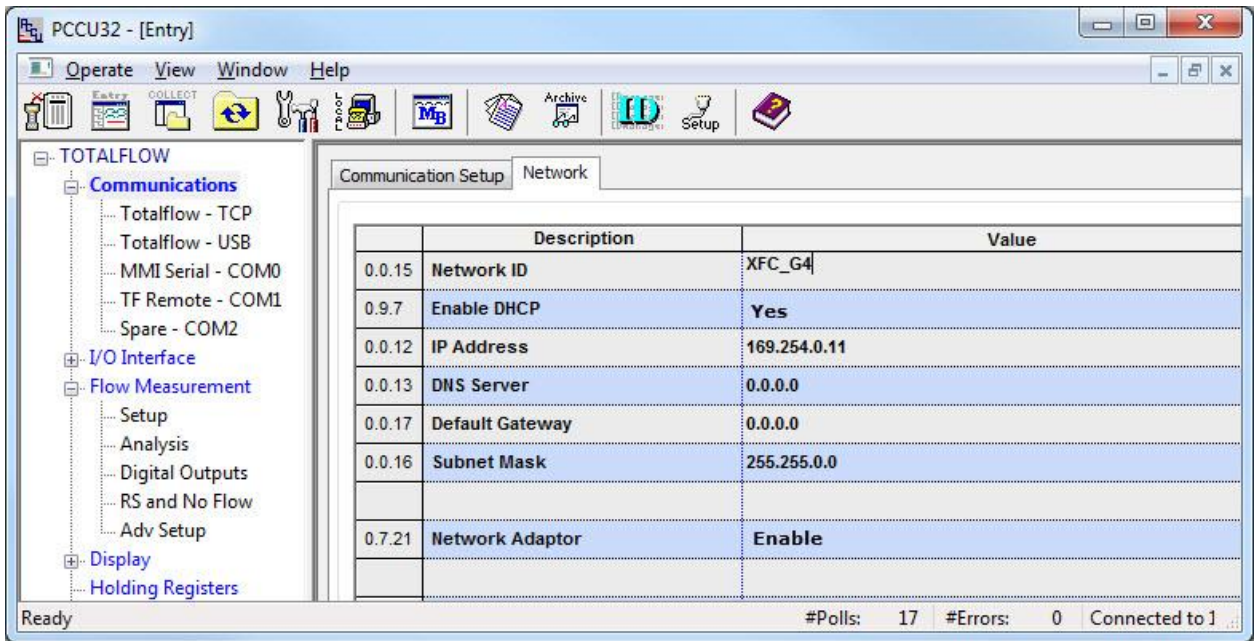

Figure 67 Network tab: Configure to use DHCP for addressing
4. In the Network ID field, type a name that helps to identify the device uniquely (Figure 67).
5. Set **Network Adaptor** to **Enable** (Figure 67).
- a. If using DHCP for dynamic addressing, set **Enable DHCP** to Yes (Figure 67). Leave the additional default IP configuration intact as it will auto-configure after Ethernet is activated.